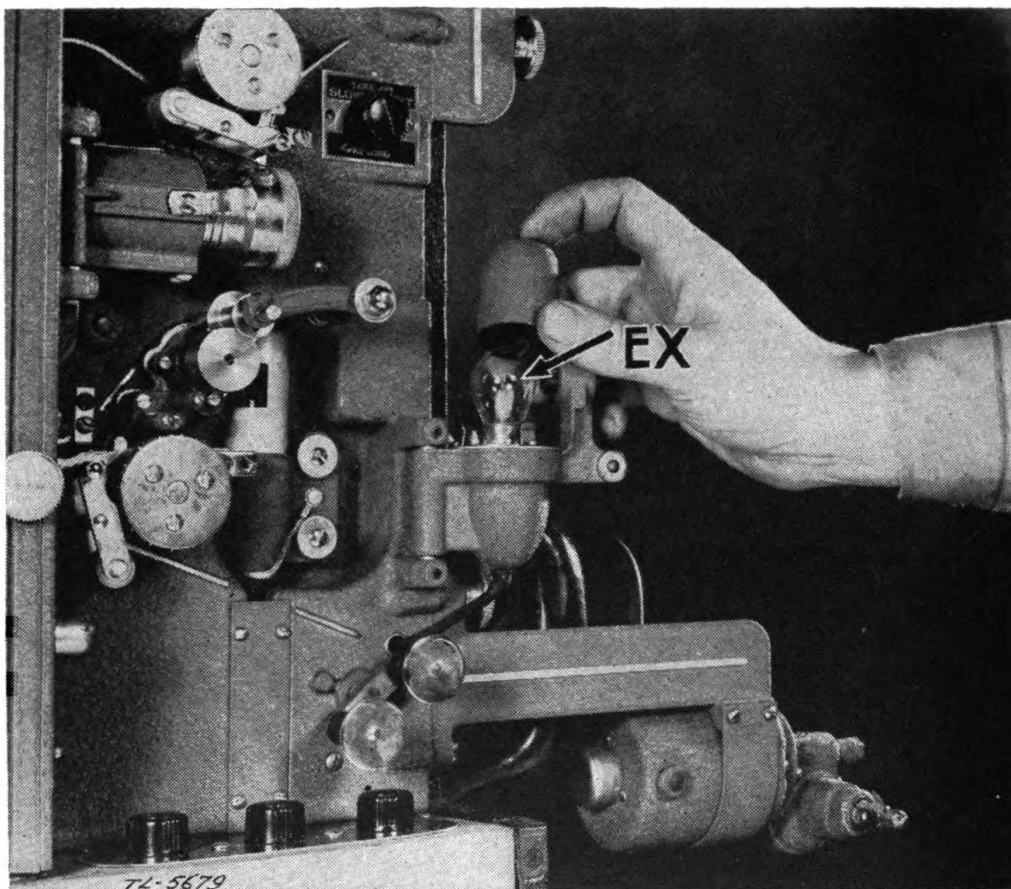

FIGURE 67.- Removing R. C. A. exciter lamp.
(2) To replace the exciter lamp (fig. 67), lift off metal cover and unscrew lamp. Install new lamp and replace cover.